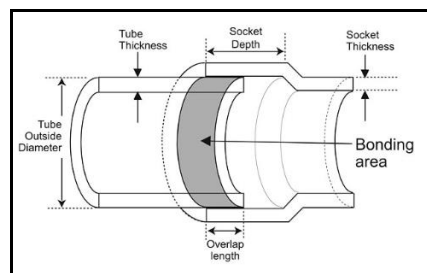

Figure 12.1. Brazing of flange
- The filler material is flown into the service by capillary action and joint is made as in figure 12.1